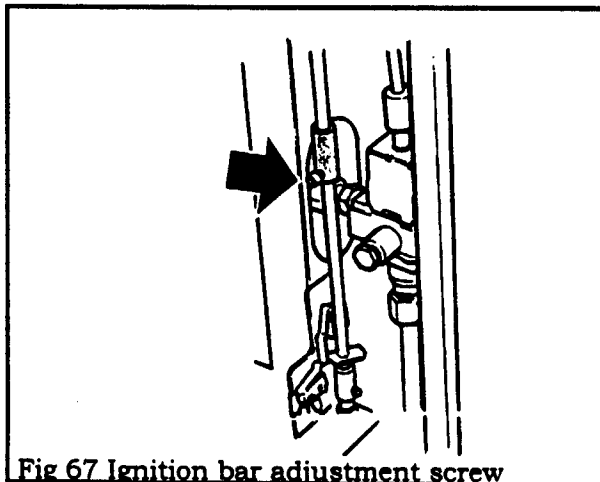

Fig 67 Ignition bar adjustment screw
19.1.4 If the ignition bar does not locate satisfactorily through the fascia, loosen the screw securing the ignition bar sleeve (fig. 67).